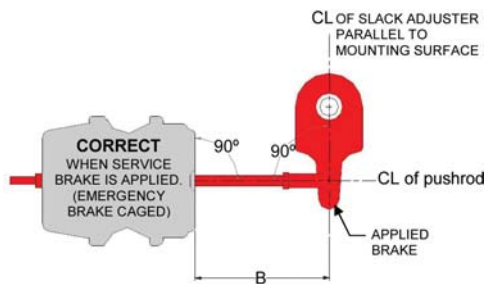

Figure 9
- A 90° angle must exist between the center line of the slack adjuster and the push rod. Figure 9.